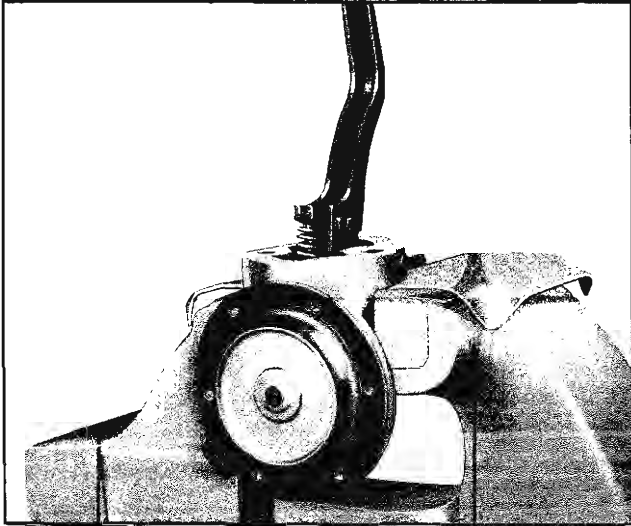

Fig. 6B-131 Diaphragm Assembly Installed (4 Cyl.)
10. Pick up diaphragm and spring as an assembly and push pull rod through oil seal into body. Be sure diaphragm spring is seated in body. Have flat of pull rod parallel to flat of link with the diaphragm flush with the body. With palm of hand, turn the diaphragm 90°, or until flat of pull rod is perpendicular to pump link. This motion should engage the pull rod "eye" with the link hook. If not, repeat this procedure until the connection is made (Fig. 6B-131).